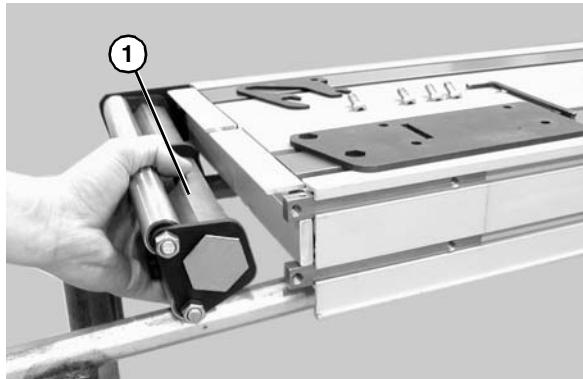

Figure 57
4. Slide the transfer tail pulley assembly (**Figure 57, item 1**) out of the headplate on the opposite side.